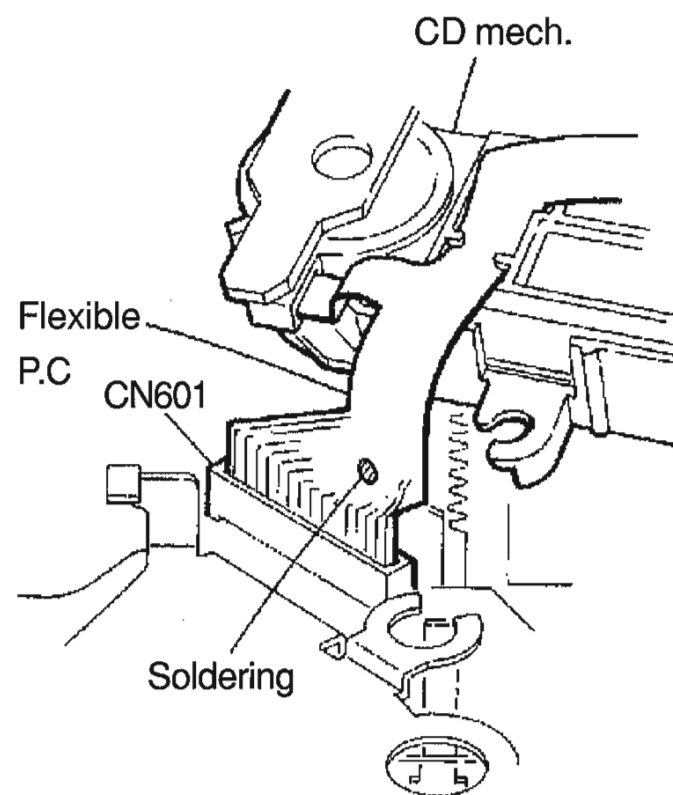

Fig.5
9. By soldering, fill the position (in Fig.5) of the flexible P.C. board outgoing from the CD mechanism.
10. From the connector CN601 on the CD traverse mechanism control & servo P.C. board, remove the flexible P.C. board (See Fig.5).